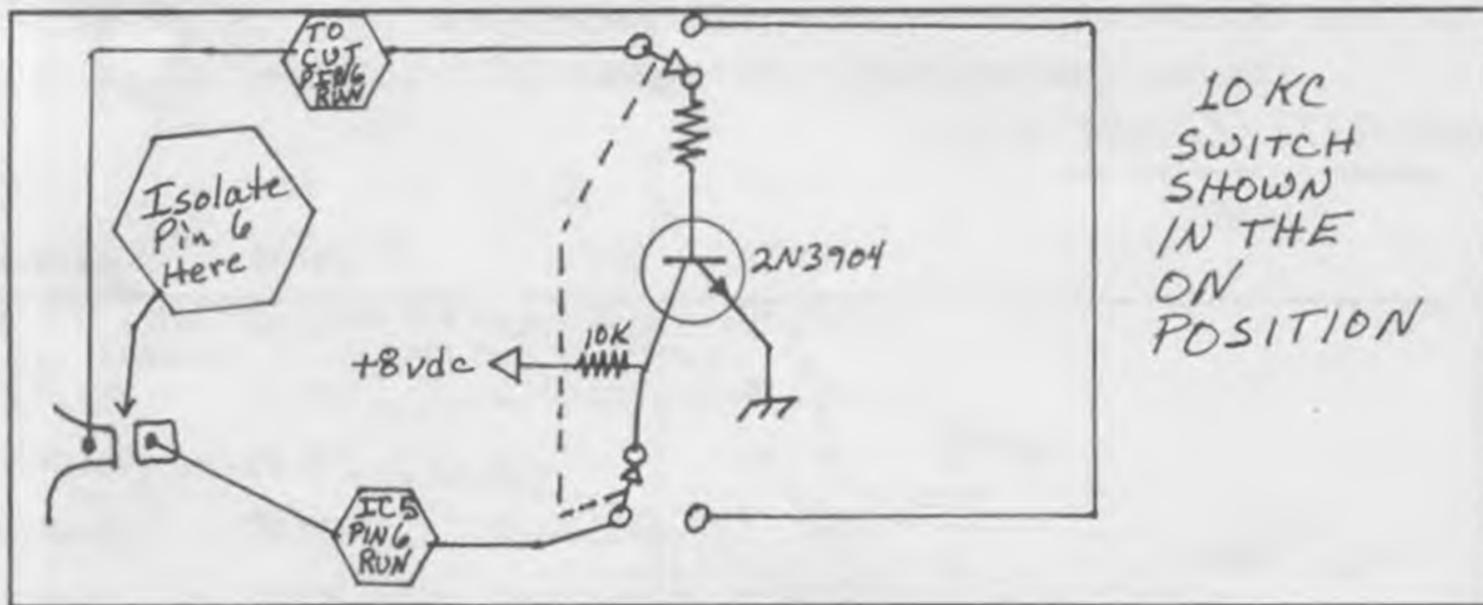

FIGURE 3. STALKER IX-FM
9. NOW, WIRE AND CONNECT THE DPDT SWITCH AND TRANSISTOR AS SHOWN IN FIG. 3. (THIS IS THE 10K SWITCH.)